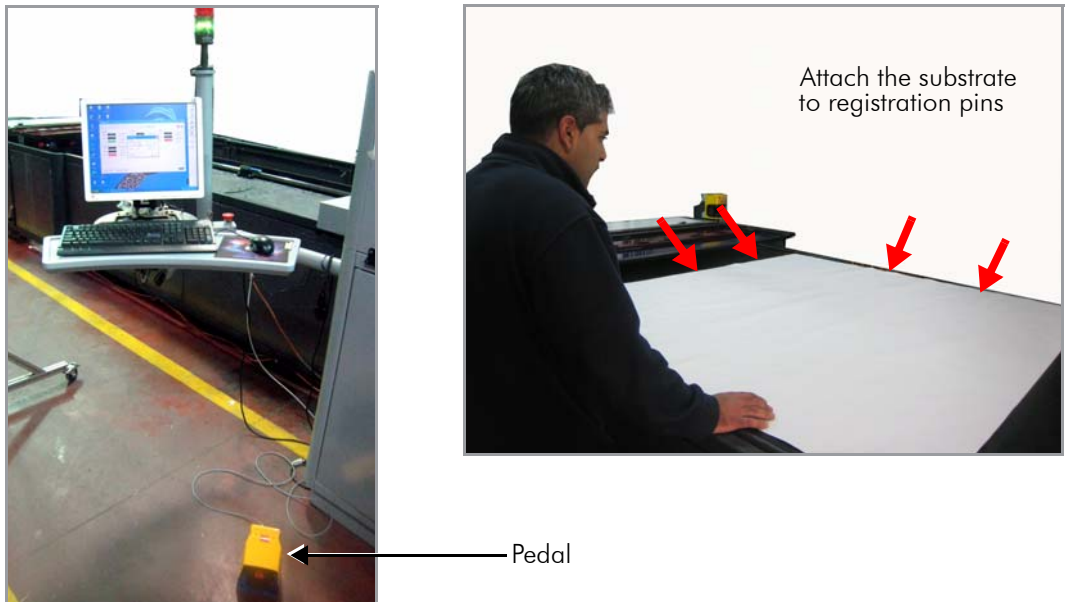

Figure 4-5 Manual Substrate Loading
- 3 Place the substrate on the printing table and attach it to the registration pins (see Figure 4-5 on page 91).